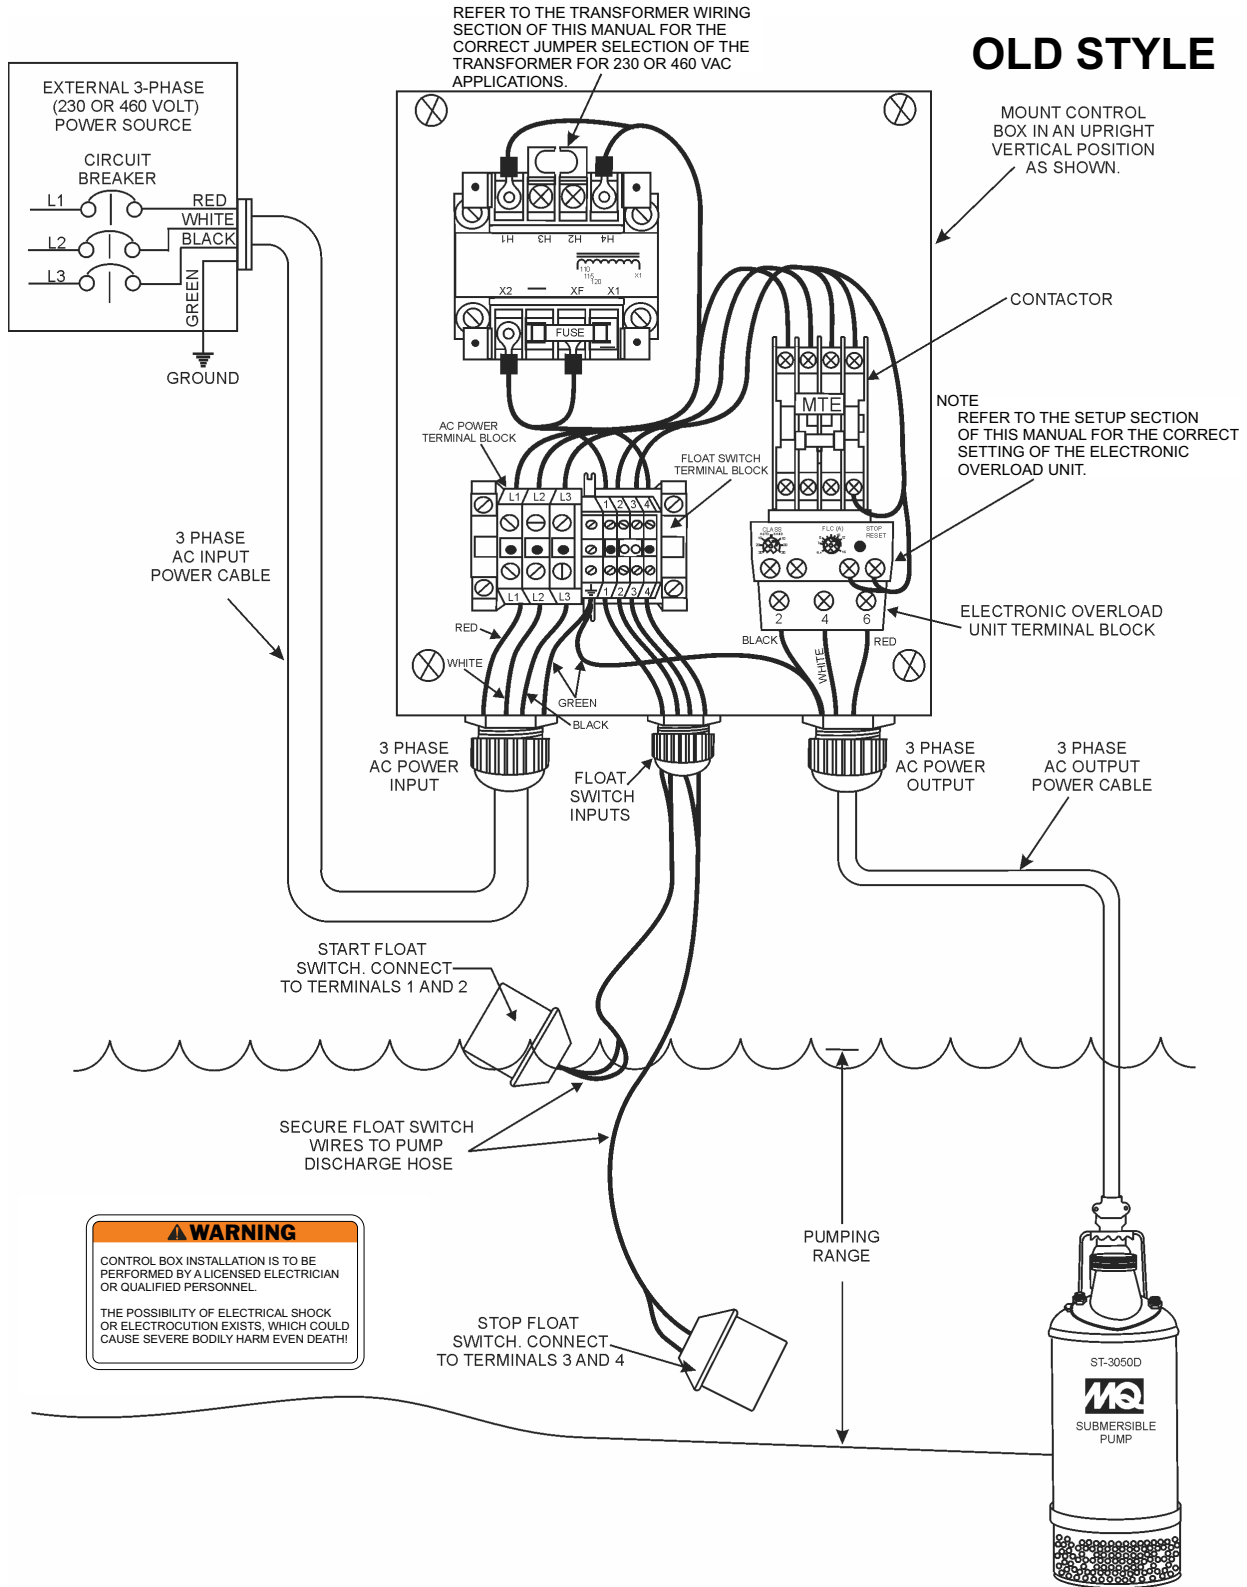

Figure 12. 3-Phase Control Box/Pump System Diagram (Old Style)
1. Remove the float switch input connector housing, then route the float switch wires through the cable gland on the control box. Attach the wires to the float switch terminal block as indicated by Table 6. Reference Figure 10 and Figure 12.
2. Remove the 3-phase AC input connector housing from the control box, then route the three phase input power cable through the cable gland on the control box. Attach the wires to the AC terminal block inside the control box as indicated by Table 9 and Figure 12.
2. Remove the 3-phase AC output power connector housing on the control box, then route the three phase output power cable through the cable gland on the control box. Attach the wires to the AC terminal blocks on the electronic overload unit as indicated by Table 10 and Figure 12.